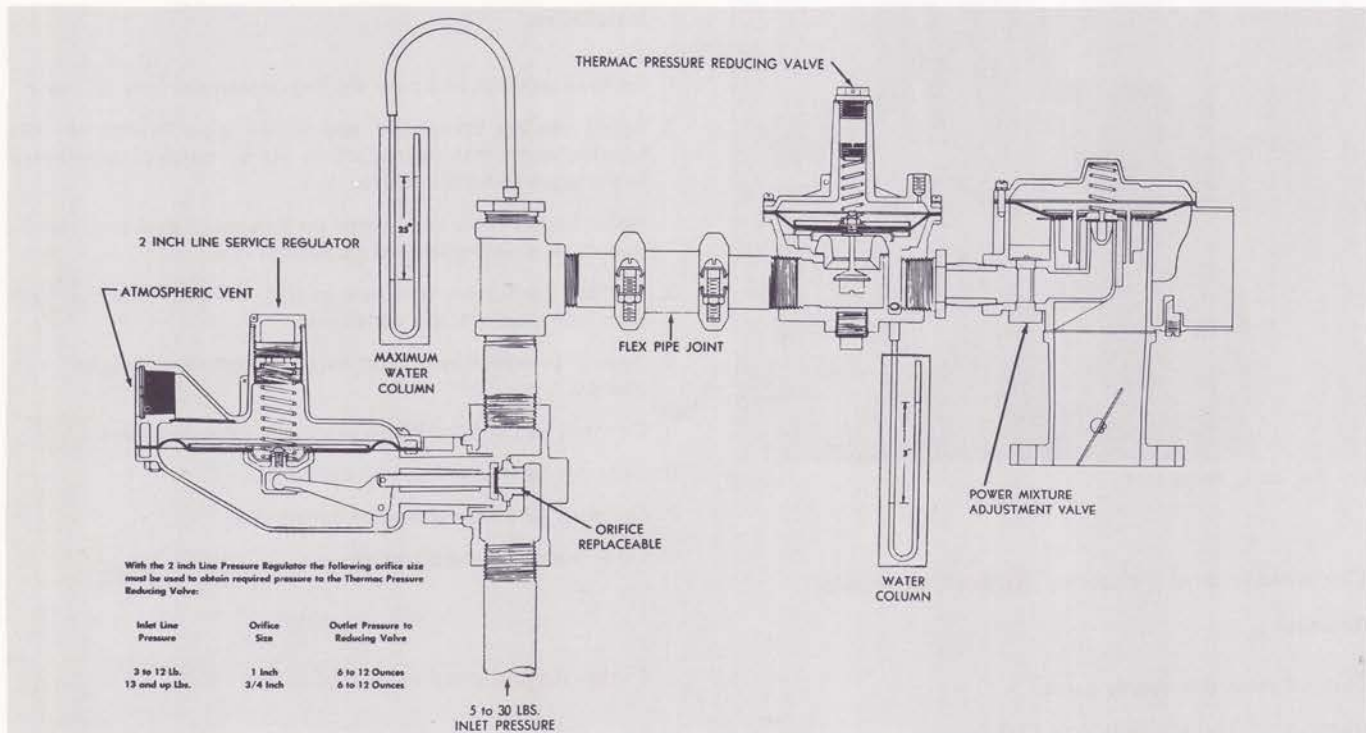

Fig. 4-10. Diagram showing pressure check points
4. Remove pipe plug and attach a pressure gauge (water manometer) between the main line passage regulator and the "Thermac" pressure reduction valve. Also remove the pipe plug and attach a pressure gauge (water manometer) on the "Thermac" pressure reduction valve. See Fig. 4-10 for check points.